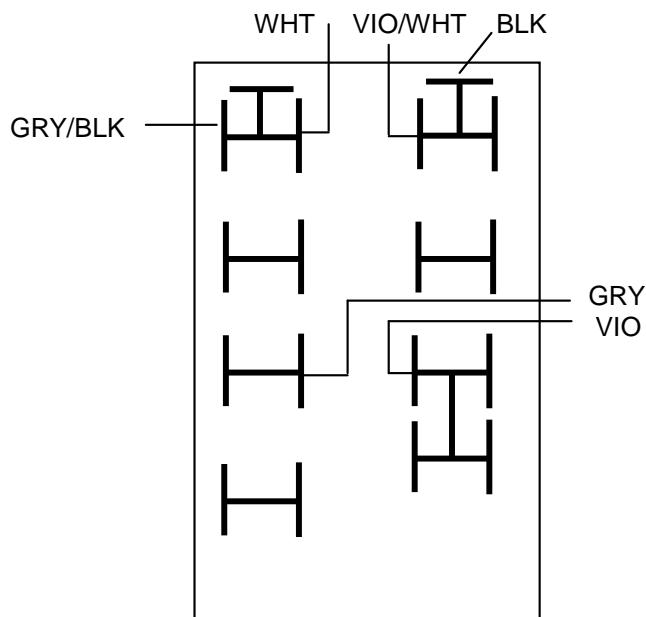

Fig. 2 Wired for 100VAC Conversion
- Step 1: Wire transformer terminal block for 100V operation as shown in Figure 2